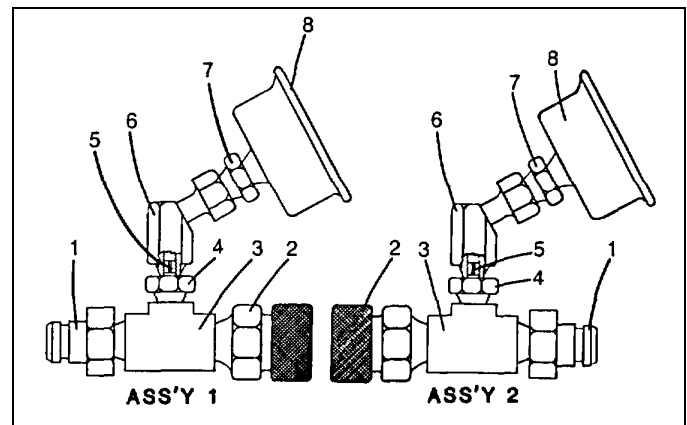

Fig. 3-12 Z200-A
- (a) Use a 2500 psi pressure gauge to adjust the relief valves. This gauge should be protected against pressure surges by an orifice or a nearly closed needle valve. Refer to Fig. 3-12 for examples of gauge assemblies with orifices and quick disconnects.